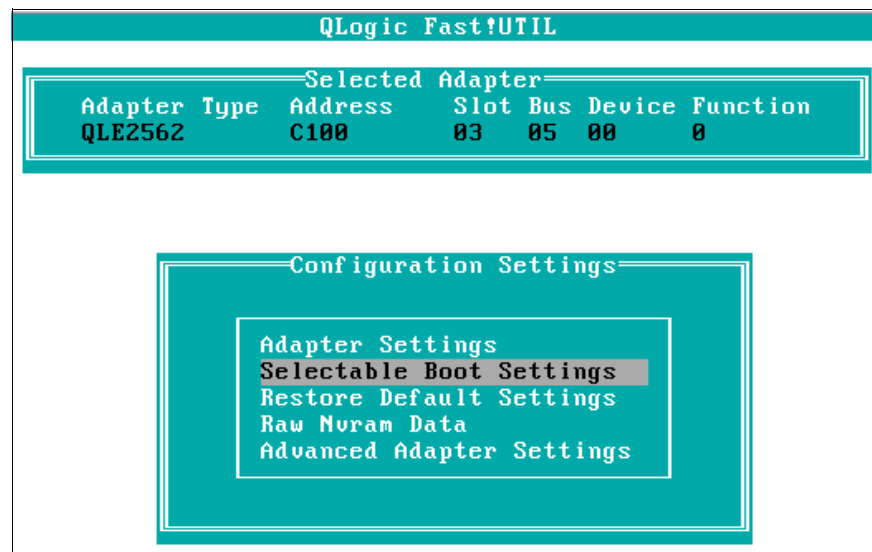

Figure 5-50 Selectable Boot Settings
8. Press the <Esc> key to back up one menu. Next, select **Selectable Boot Settings**, as shown in Figure 5-50.